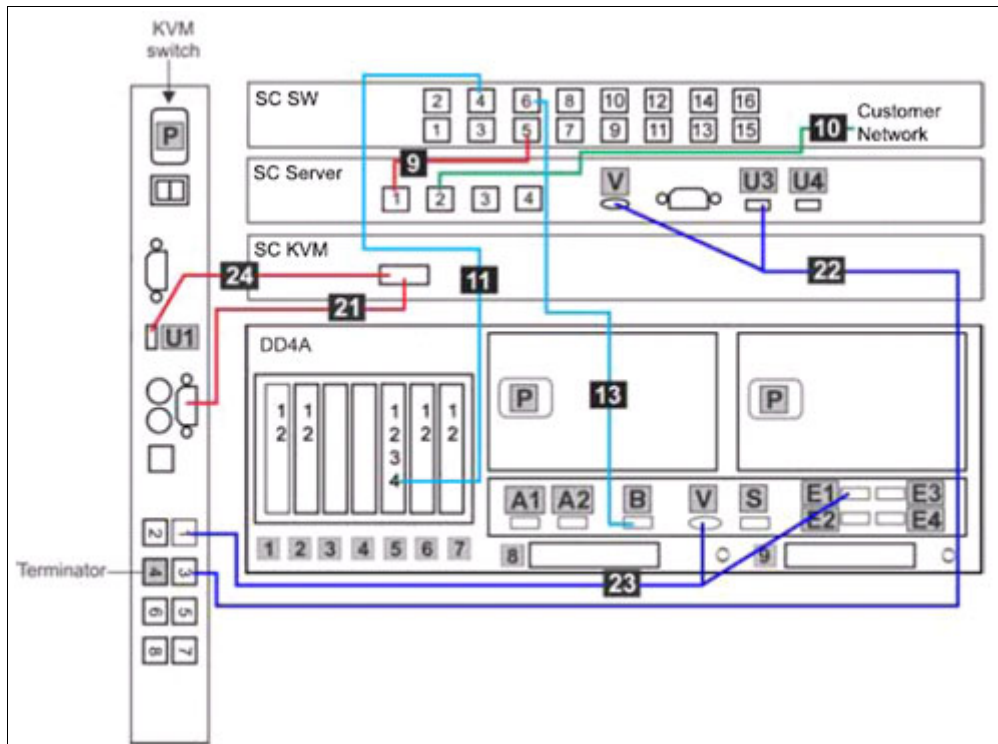

Figure 4-9 TSSC, KVM, and customer Ethernet connections for single node
In this section, we show the recommended Ethernet connections from the TS7650G server to the TS3000 System Console. The TS3000 System Console is a one-unit IBM System x server with a one-unit KVM, and a network switch provided for the network connection to the 3958-DD4 server and the disk array. In Figure 4-9 on page 146, you can see how to connect the TSSC and 3958-DD4 server to a KVM switch.
**Note:** Figure 4-9 on page 146 shows the Ethernet and KVM switch connectivity for a single cluster 3958-DD4 server. In this example, the 3958-DD4 server is configured for VTL, but the connectivity to KVM and TS3000 would be the same in an OST configured server. Refer to Table 4-5 on page 146 for a detailed connectivity explanation.